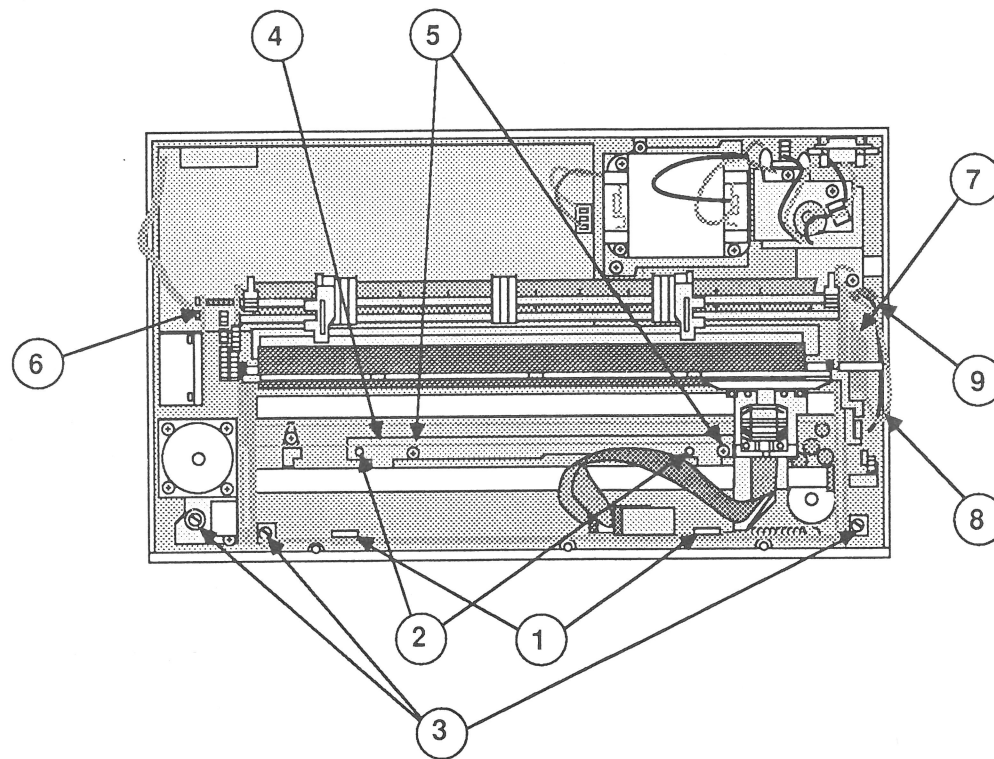

FIGURE 50
12. Use the flat-blade screwdriver to release the two plastic tabs holding the mechanical assembly to the bottom cover (Figure 50, #1). As you release the first tab, use your other hand to hold that side of the mechanical assembly above the tab, and then release the other tab.
- Check the alignment posts (Figure 50, #2) to make sure the assembly is correctly positioned.
3. Tighten the three screws securing the mechanical assembly to the bottom cover (Figure 50, #3).
4. Place the fixer bar (Figure 50, #4) in position, and replace the two Phillips screws (Figure 50, #5).
5. Attach the ground braid (Figure 50, #6) to the mechanical assembly with the Phillips screw.
6. Replace the power supply bracket screw (Figure 50, #7).
7. Route the auto-load solenoid and platen gap position sensor cables (Figure 50, #8) through the cable clamp (Figure 50, #9), and close the clamp.